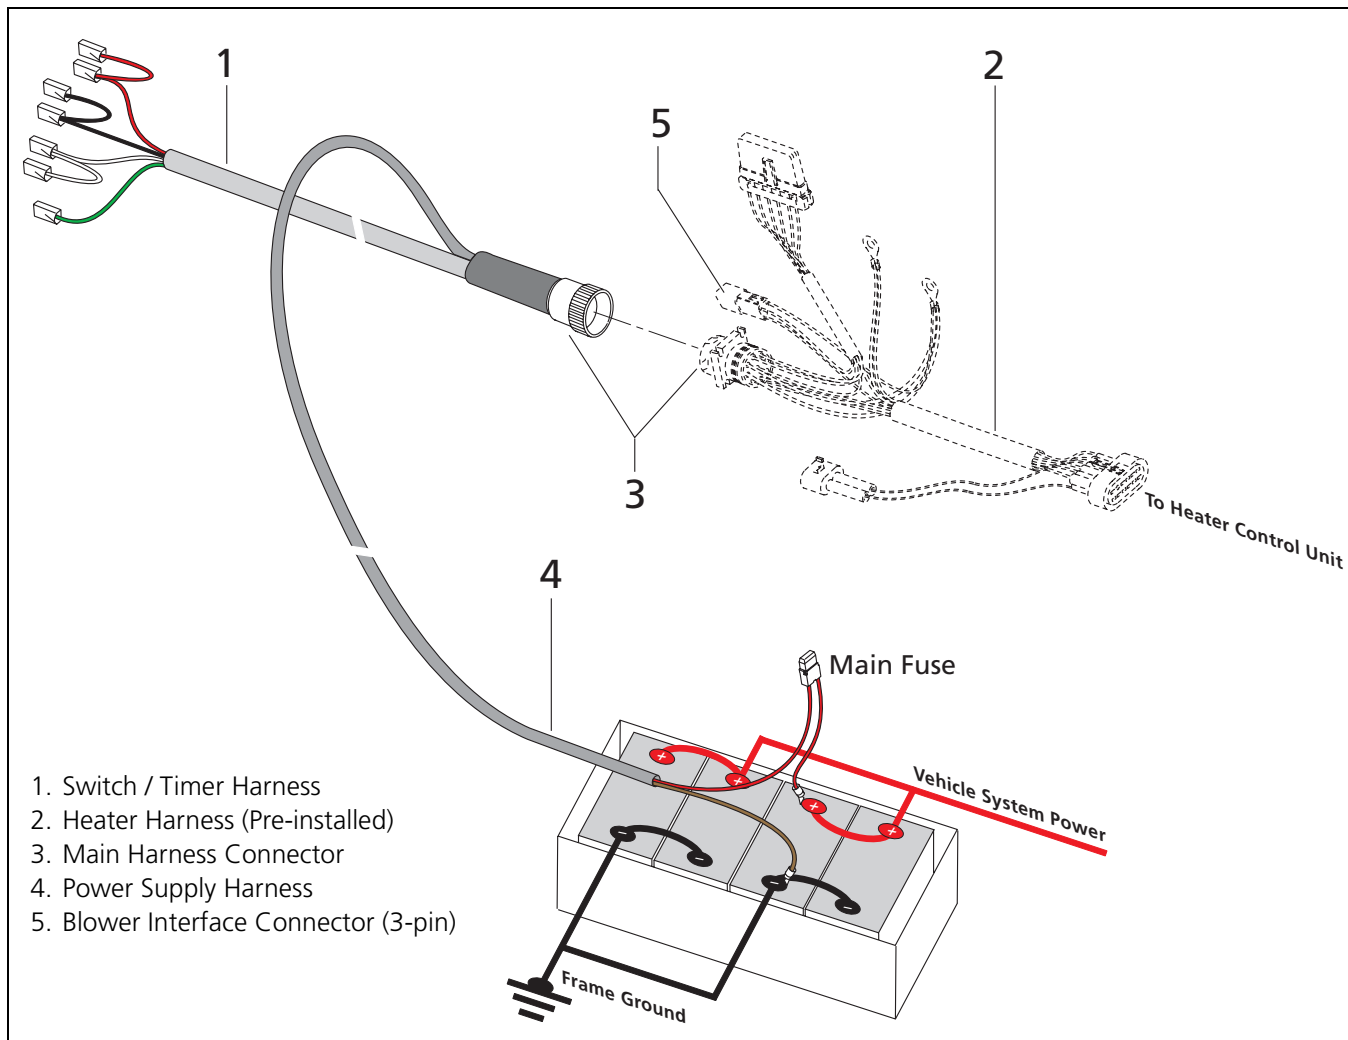

Figure 29: Power and control harness assembly
- A. Route item 1 into the vehicle cab in the area where the switch or timer is to be installed.
- B. Route item 4 to vehicle battery box and connect to batteries as shown in Figure 29. Brown wire to ground, red wire with fuse holder to positive. Ensure battery connections are clean and protected with an anti-corrosive compound.